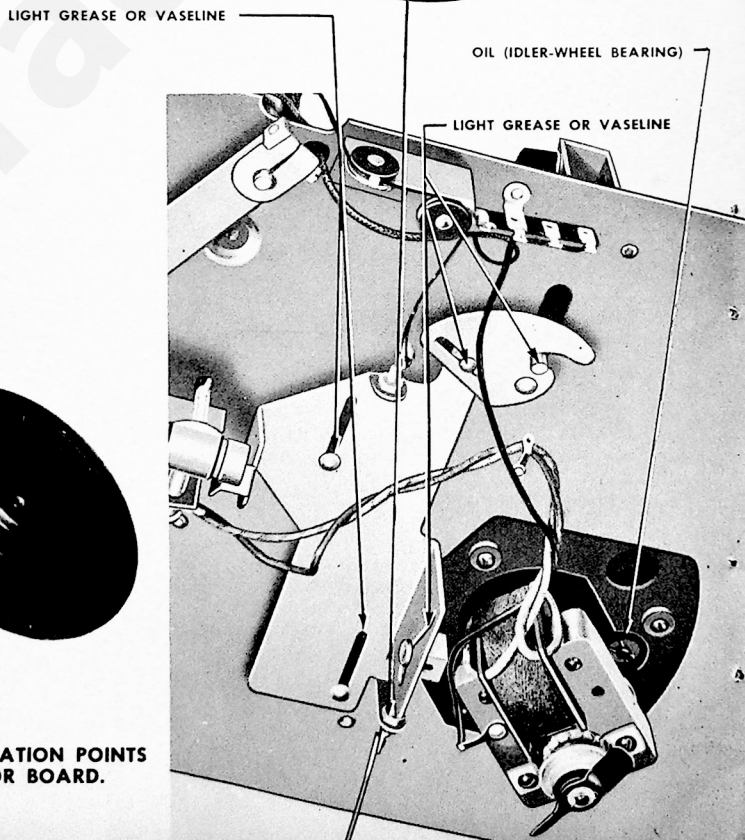

Figure 17—LUBRICATION POINTS UNDER MOTOR BOARD.
- Loosen the two nuts on the threaded stud of the connector bar. See detail, Figure 17.
- Idler-wheel bearing, shown in Figure 17.
Clean off old grease with carbon tetrachloride, and apply *light grease* or *vaseline* to the following points, also shown in Figure 17.